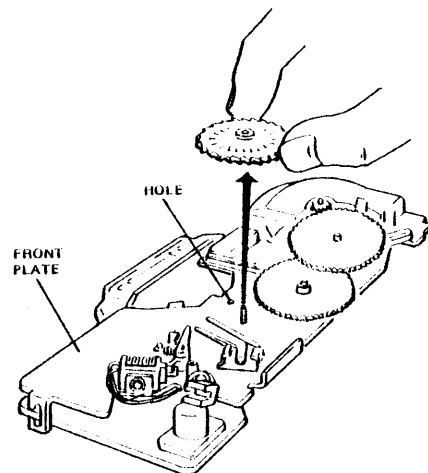

FIGURE 4-14
5. Before replacing encoder wheel, turn second idler gear counterclockwise until it stops. Hold the gear with your thumb. The park switch will be open. Line up encoder wheel so that hole in wheel overlays hole in front plate (see Figure 4-14). Drop wheel onto shaft.